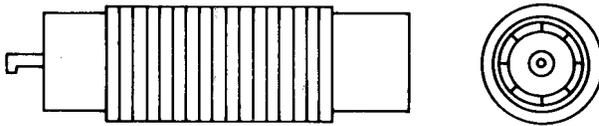

Fig. 17—567A Jack
2.17 567A: This coaxial-type jack (Fig. 17) has a threaded body and is designed to be used with the 440 and similar-type plugs on one end and designed for a soldered wire connection on the other end. This jack is not designed for a coaxial cable connection. The insulated metal parts are capable of withstanding a 2000 volt ac breakdown test. This jack is provided with two hexagonal nuts for mounting. The 567A jack is used with Toll Systems—TH3 Radio.